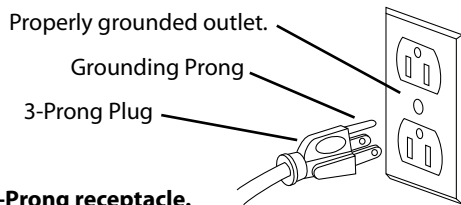

Figure 10 – 3-Prong receptacle.
Refer to Figures 10 and 11.
- Grounding plug should be plugged directly into a properly installed and grounded 3-prong grounding-type receptacle, as shown (see Figure 10).